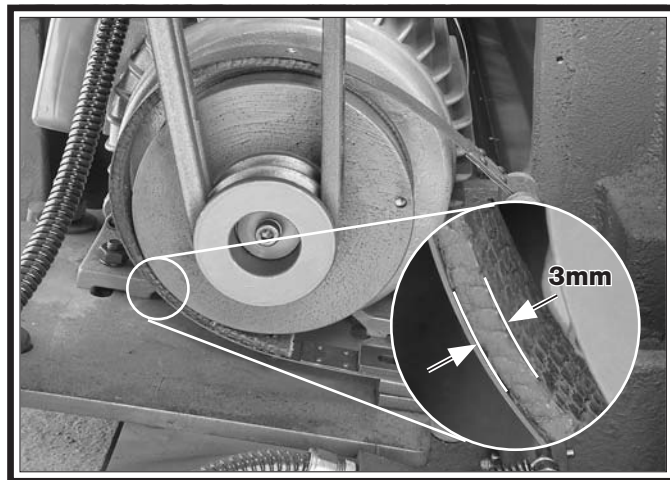

Figure 125. Minimum brake belt thickness.
4. Measure the remaining brake band lining at the thinnest point, which is usually at the 8 o'clock position, as shown in **Figure 125**.